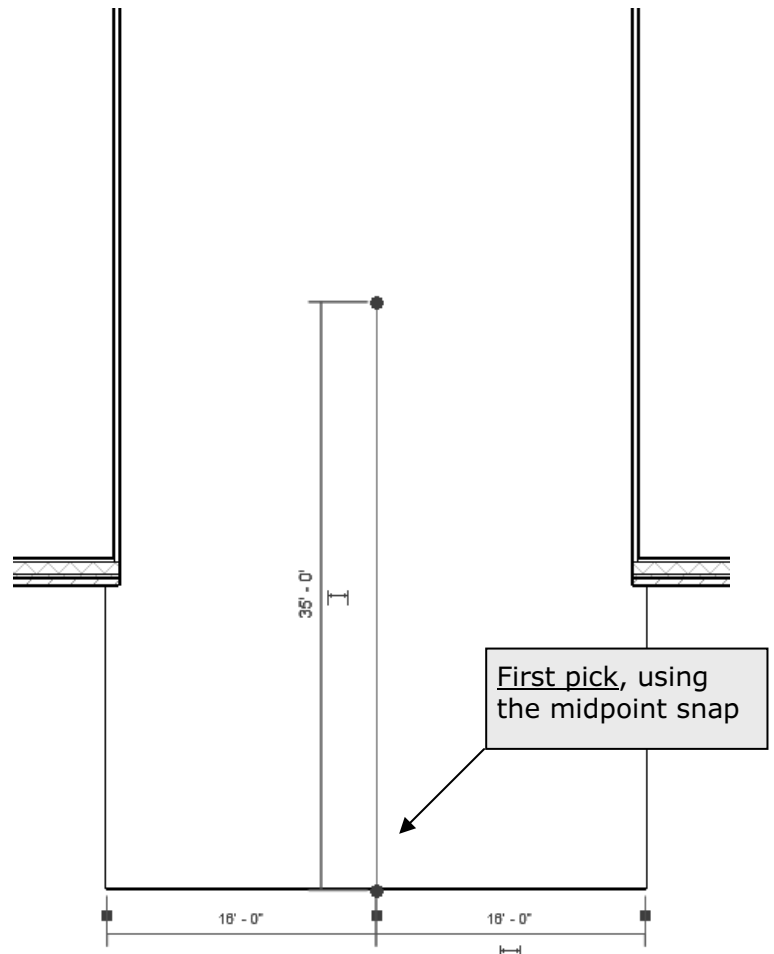

Figure 3-3.3
10. Draw the "vertical" line shown in Figure 3-3.3; be sure to snap to the *Midpoint* of the atrium wall as your first point.